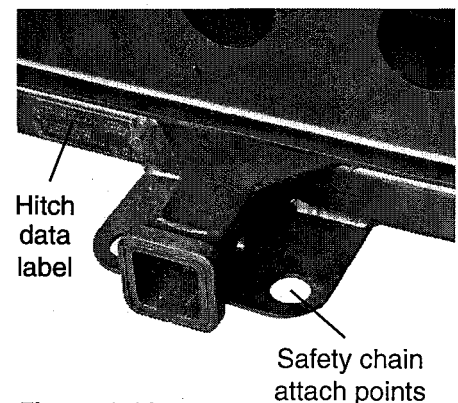

Figure 1.10
- Country Coach provides a hitch that can be used for towing vehicles. The towing capacity and the tongue load capacity of this hitch are indicated on a label (**Figure 1.10**) attached to the hitch. You must never exceed these limits.
- You must use safety chains. For this purpose, round holes are available on both sides of the hitch plate (**Figure 1.10**, page 1.23). These are the only approved points of attachment for the safety chains. Make sure you leave enough space for turns when you attach the chains. Do **not** secure safety chains to any other part of the coach.